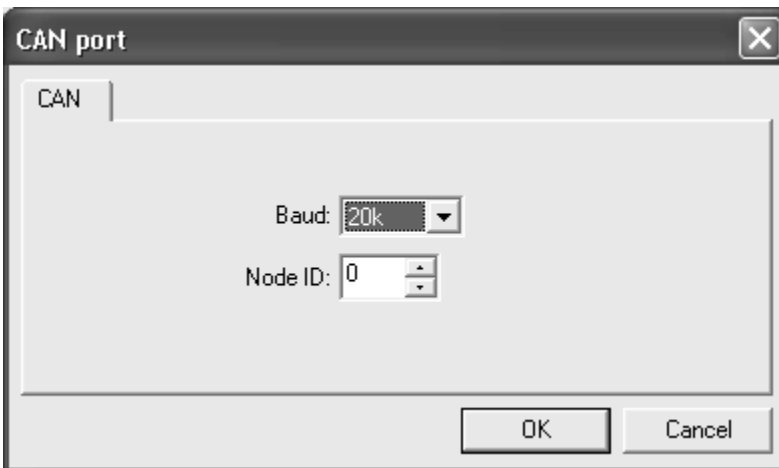

Figure 2-3:
- If you are using a CAN interface, select CAN port and click OK. The CAN port dialog box is displayed (Figure 2-3). Enter the appropriate Baud rate and Note ID, then click OK.